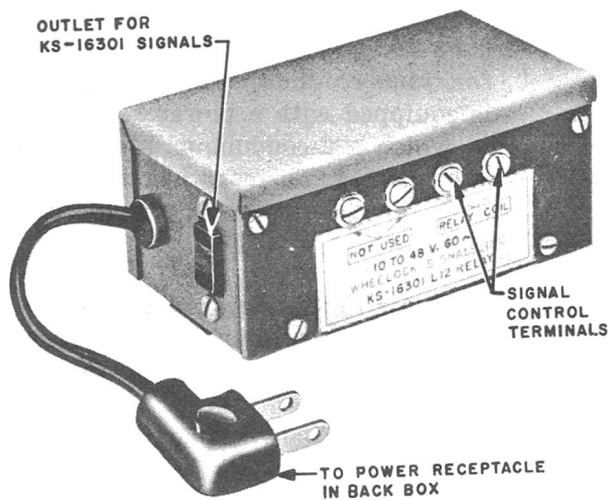

Fig. 10 — KS-16301, List 12 Relay
3.09 **List 12 Relay**, shown in Fig. 10, is designed to operate on 9 to 48 volts 60 cycles ac.